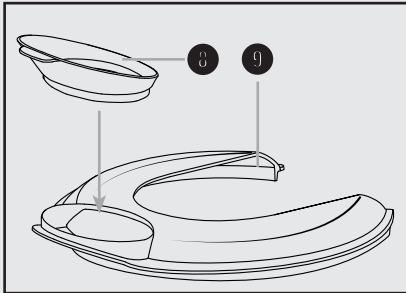

Fig. 2: Fitting the filling accessory
- ▶ If you wish, you can fit the filling accessory **8** onto the lid **9** (Fig. 2):